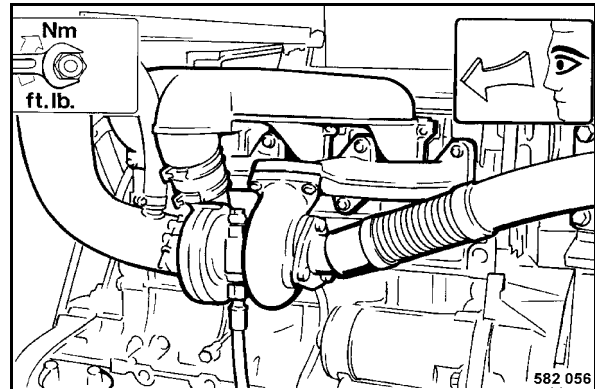

Fig. 169
- Check the fastening of intake and exhaust tubes (Fig. 169) on the cylinder heads for tight fit.